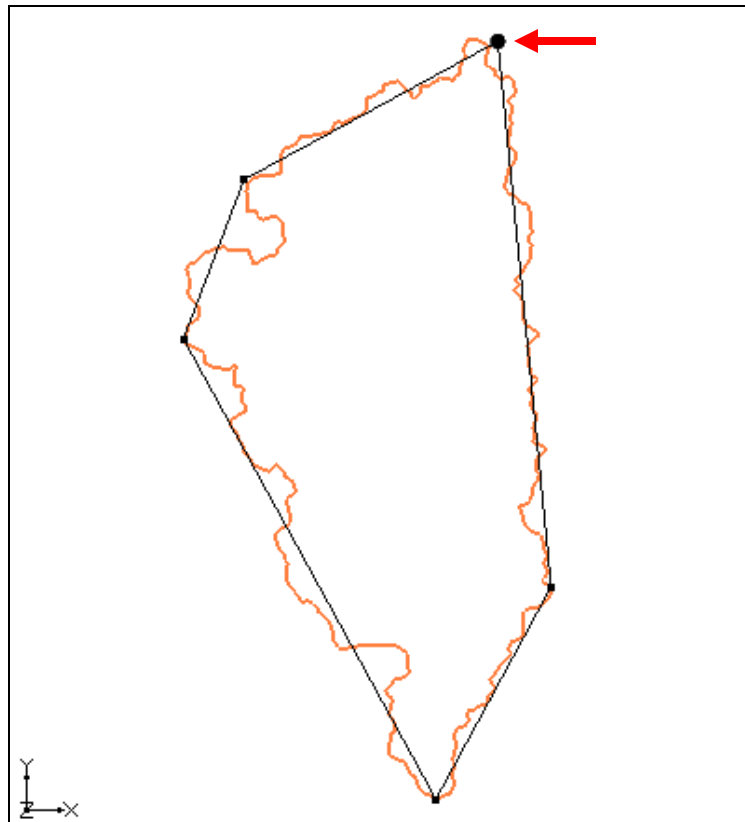

Figure 19 Creating an arc for the watershed boundary
3. Using the **Create Arc**  tool, create a simple arc as shown in Figure 19 by clicking in the Graphics Window. Click on the starting point (indicated by red arrow in figure) to close the arc to form a polygon. Hit the *Backspace* key to remove the last point clicked.